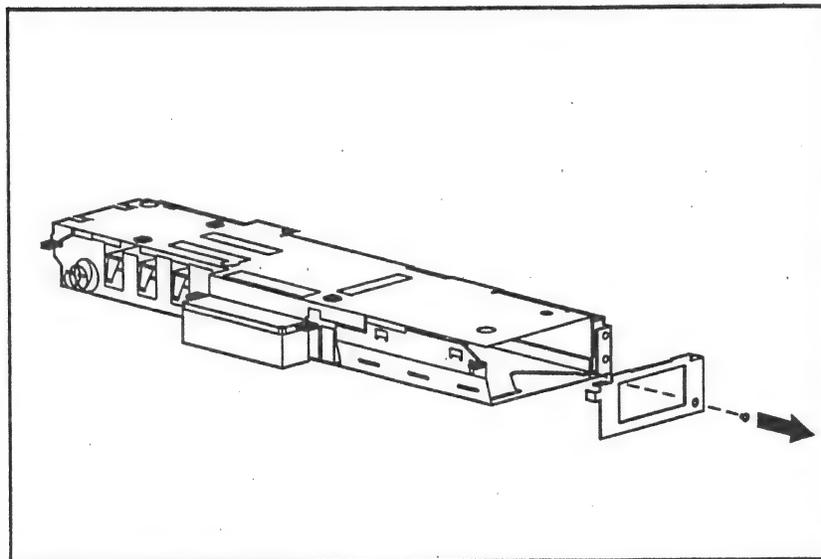

Figure 2-56. Releasing the Option Mounting Bracket
7. Using a Torx T-8 screwdriver, remove the screw securing the option mounting bracket (Figure 2-56).